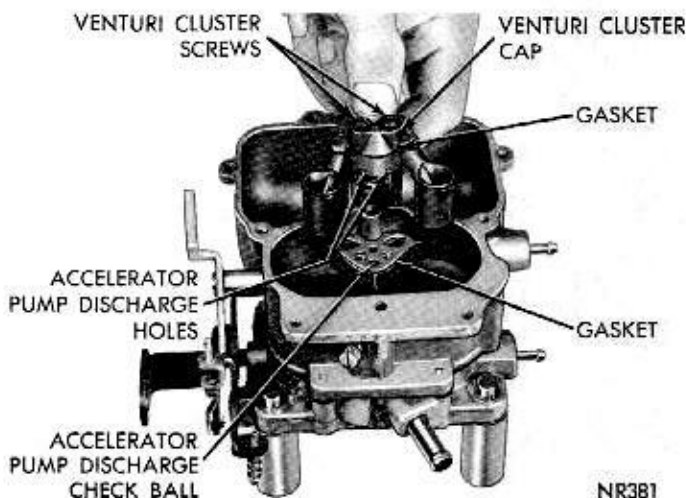

Fig. 6—Removing or Installing Venturi Cluster
(14) Remove venturi cluster screws, then lift venturi cluster and gaskets up and away from main body, (Fig. 6). Discard gaskets. **Do not remove idle orifice tubes or main vent tubes from cluster.** They can be cleaned in a solvent and dried with compressed air.
(15) Invert carburetor and drop out accelerator pump discharge check ball and intake check ball. (The intake check ball is the largest.)
(16) Remove screws that attach throttle body to main body. Separate the bodies and discard gasket.
(17) Remove plastic limiter caps from idle air mixture screws. (Be sure and count number of turns to seat the screws, as the same number of turns (from the seat) must be maintained at installation.) Remove screws and springs from throttle body.